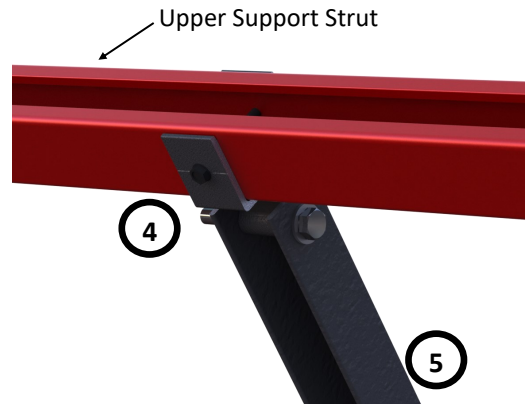

Figure 4
4. Insert Upper Support Strut, shown in **RED**, into the Rear Hinge Bracket and secure with two (2) Self Drilling Screws per Mounting Foot as shown in *Figure 4*.